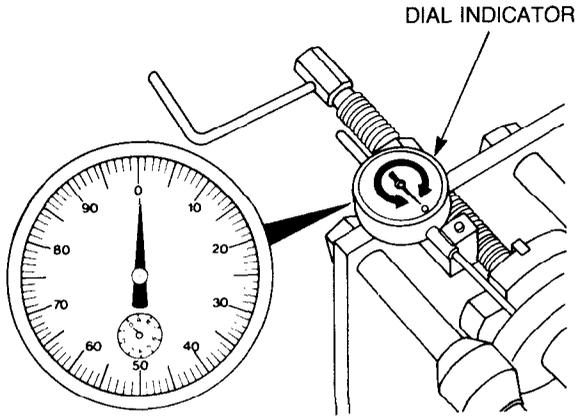

Figure 112 — Tester Dial Indicator
- b. Turn the tester hand crank clockwise until the load cell gauge reads 1379 kPa (200 psi) then set the tester dial indicator to zero (see Fig. 112).